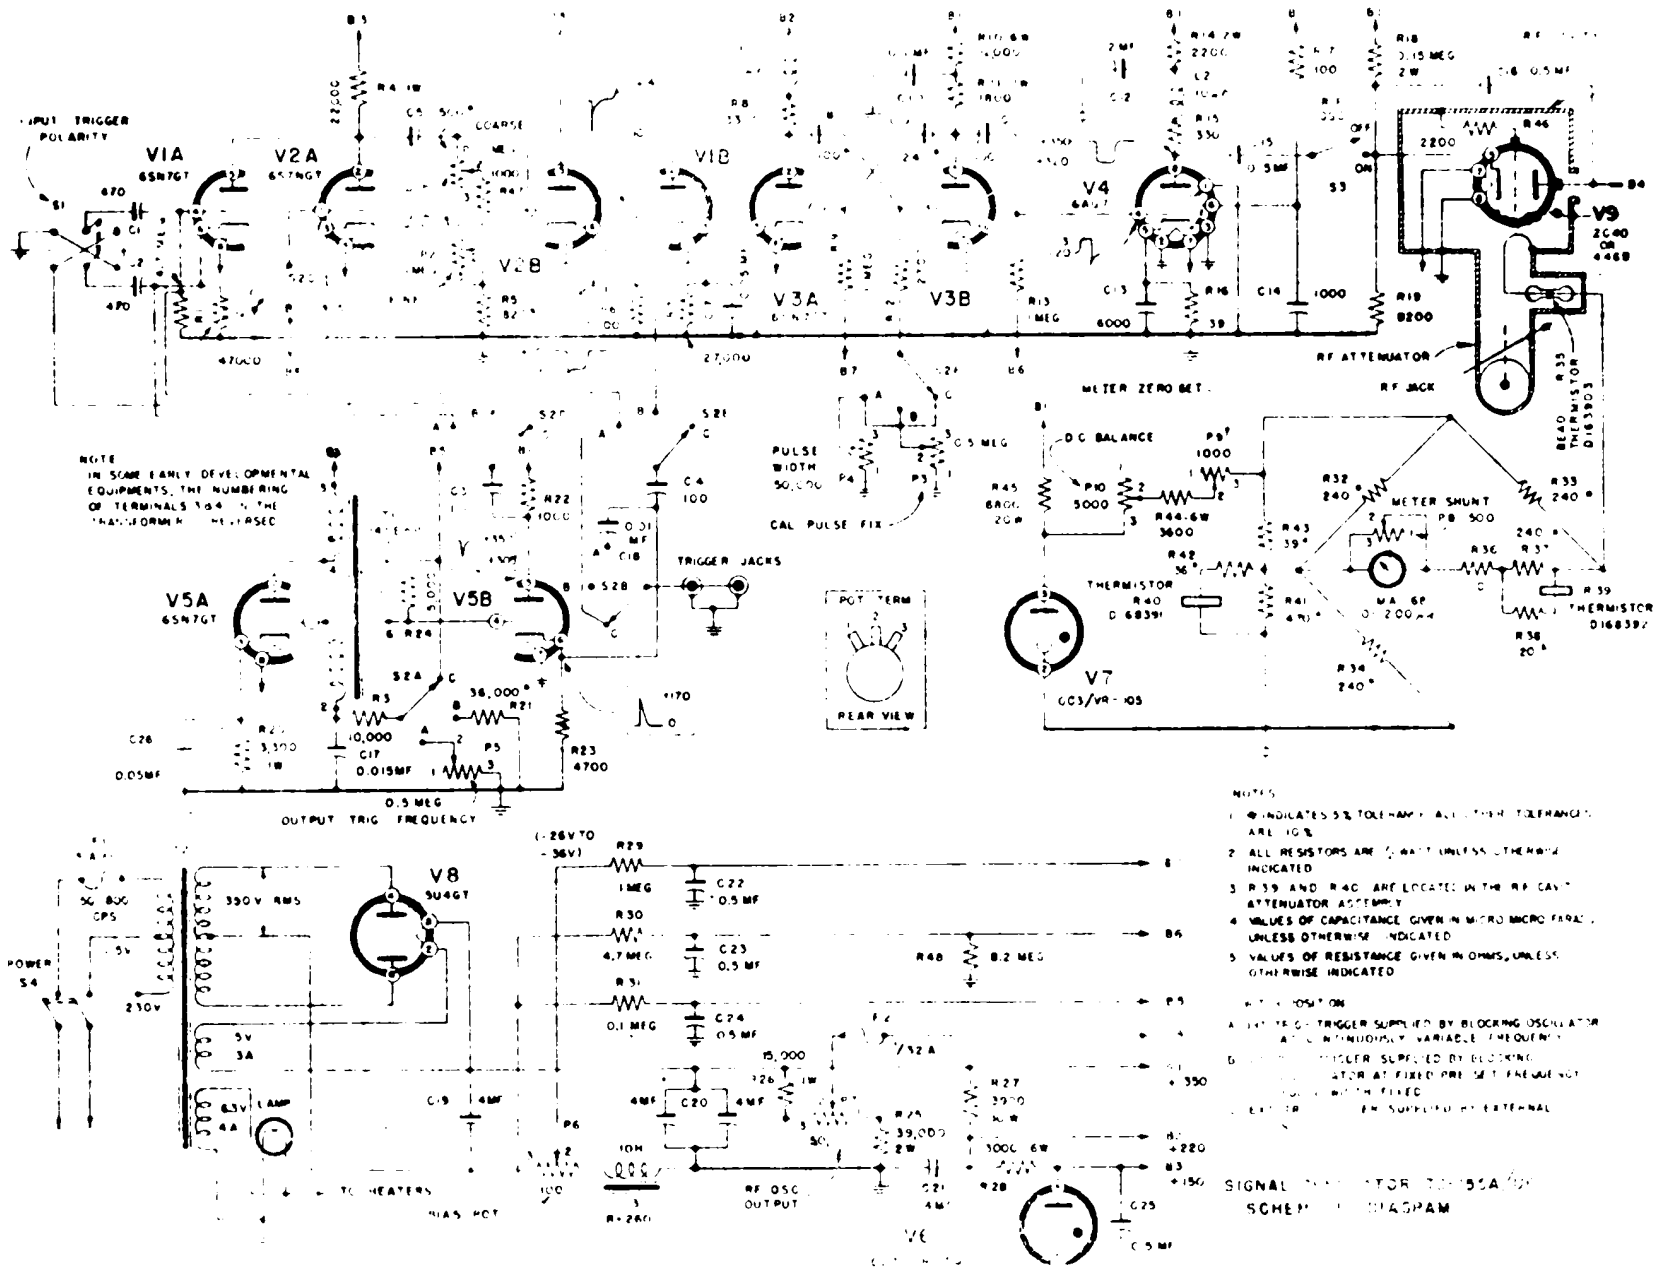

Figure 29. Signal Generator TS-155A/UP, complete schematic diagram.
(inverse feedback) by decreasing the voltage from grid to cathode. The voltage across resistor R23 is coupled through capacitor C18 (fig. 29) to the TRIGGER jacks when the selector switch is in the INT TRIG position, making it available for triggering external equipment. This voltage is also coupled through capacitor C4 to the grid of V1A where it is used to trigger the pulse circuits
b. Trigger Inverter. With the selector switch in EXT TRIG position, the delay multivibrator is triggered with a signal of the correct polarity, whether the input trigger is positive or negative, by means of the trigger inverter (fig. 29)
j. Power Supply (fig. 29).
(1) The power supply uses a transformer T2, one SU4G full-wave rectifier tube (V8), one OD3 VR-150 voltage regulator tube (V6), and one OC3 VR-105 voltage regulator tube (V7). Inductor L3 and capacitors C19 and C20 form an inductance-capacitance filter with capacitor input.
(2) The voltage for the r-f oscillator tube (V9) is taken from the R.F. OSC OUTPUT potentiometer (P7) in the voltage divider consisting of R25, P7, and R26 across the positive filter terminal and ground.
(3) The peak voltage for the delay multivibrator is regulated by a OD3 VR-IS0 glow discharge voltage regulator (V6). The current of this voltage regulator tube is limited by resistors R27 and R28. Additional filtering is provided by C21 and C25.
(4) The voltage for the wattmeter bridge is regulated by a OC3 VR-105 glow discharge voltage regulator (V7). Resistor R45 is the current limiting resistor for this regulator tube.
(5) Negative bias voltage is obtained from the d-c voltage drop in the filter choke L3 and the potentiometer P6.
35. FUNCTIONING OF SIGNAL GENERATOR CIRCUITS (fig. 29).